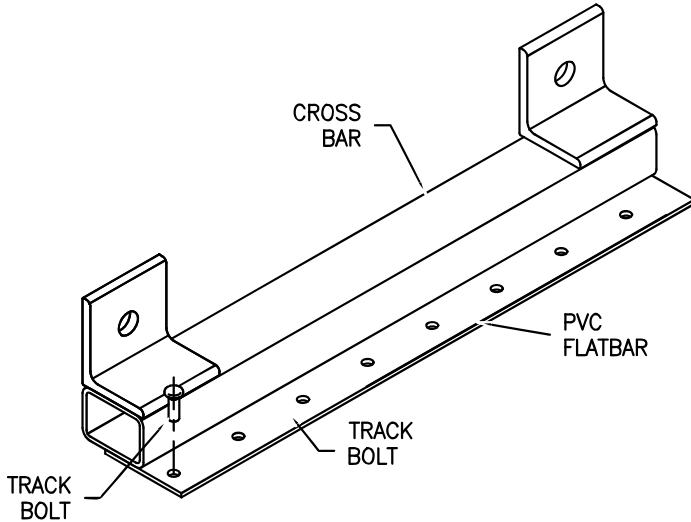

FIG. 5
- a. Insert track bolts into crossbar (Fig. 5).